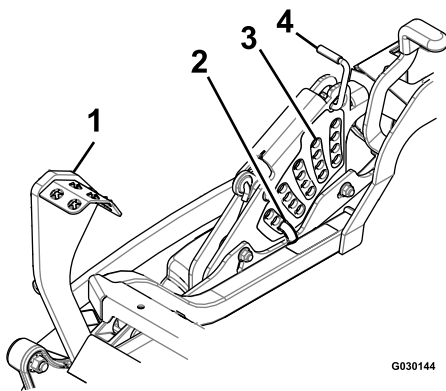

Figure 23
4. Raise and lock the deck to the 5 1/2 inch (14 cm) transport position (Figure 23).